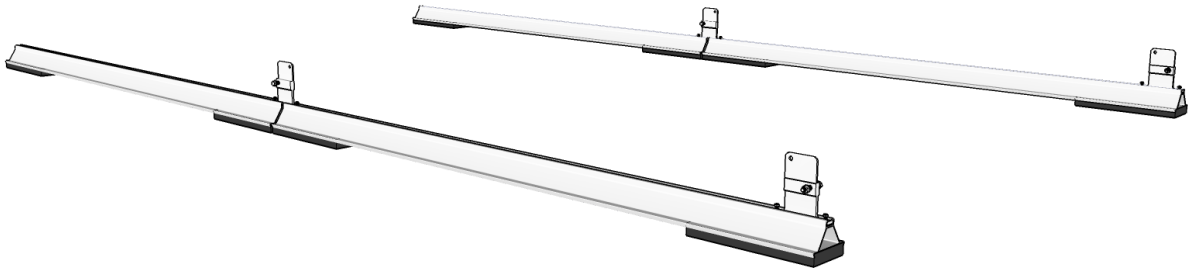

Figure 8
Step 5: Assemble and Place a Second Two-Rail Section – Figure 8